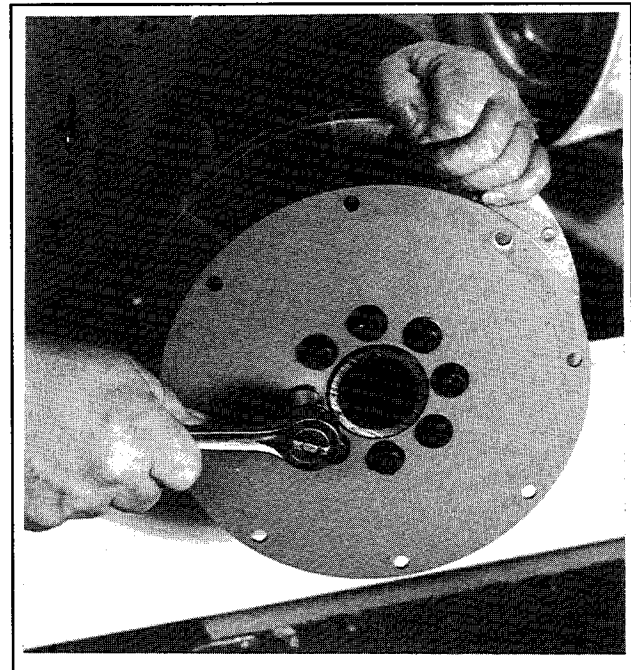

Figure 8-17. Removing Flex Discs (2)
20. Remove eight screws to detach flex discs (2) from rotor. See Figure 8-17.